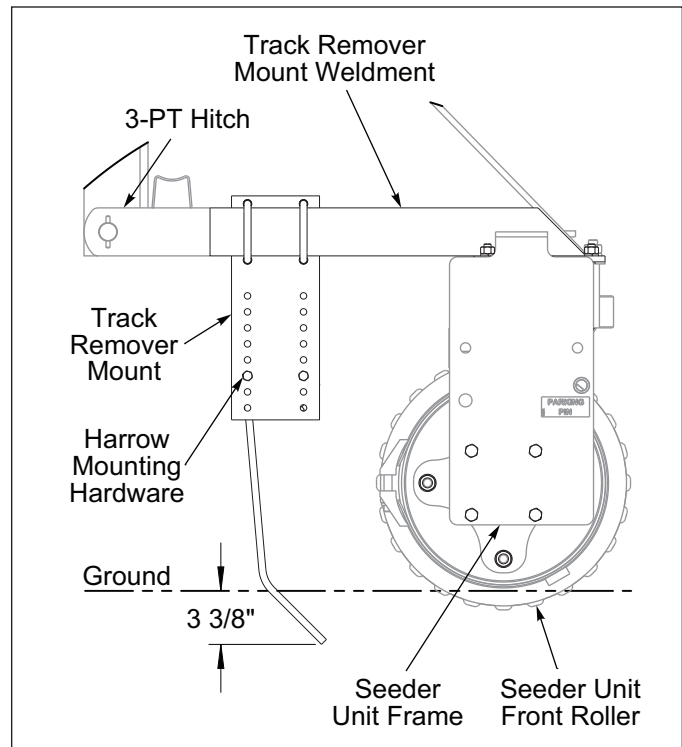

Figure 2-28: Wing Harrow Height Adjustment
5. The RH and LH Wing Harrows height can be adjusted by raising or lowering the Harrow in the Track Remover Mount. A good starting point is the Harrow assembled in the 3rd hole from the bottom of the Track Remover Mount. **See Figure 2-28.**